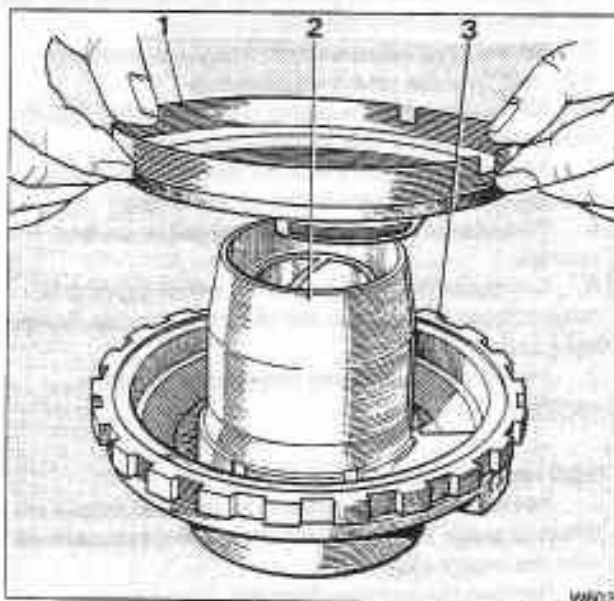

Fig. T20-6 Fitting the intermediate clutch piston
3. Fit the intermediate clutch piston (see fig. T20-6). Ensure that it seats fully in the centre support.